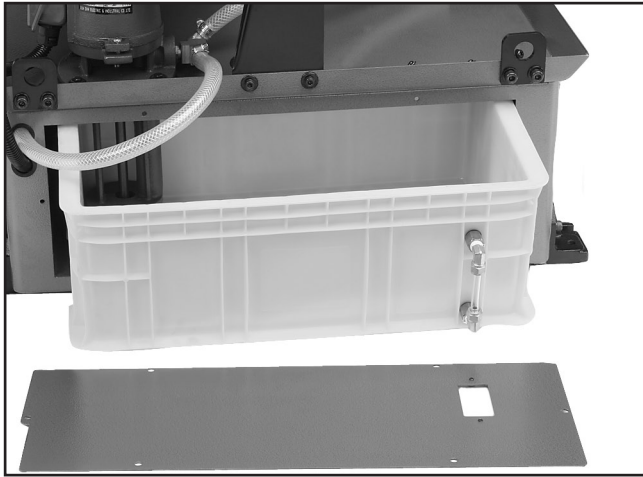

Figure 26. Coolant system reservoir and cover.
1. Access the reservoir by removing the front panel (see **Figure 26**).